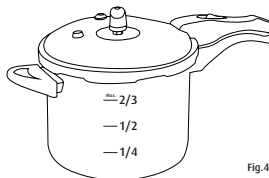

Fig.4
- b. Less than 2/3 of the height of the pressure cooker for foods that do not increase their volume such as beef or pork, vegetables, etc. (Fig. 4)